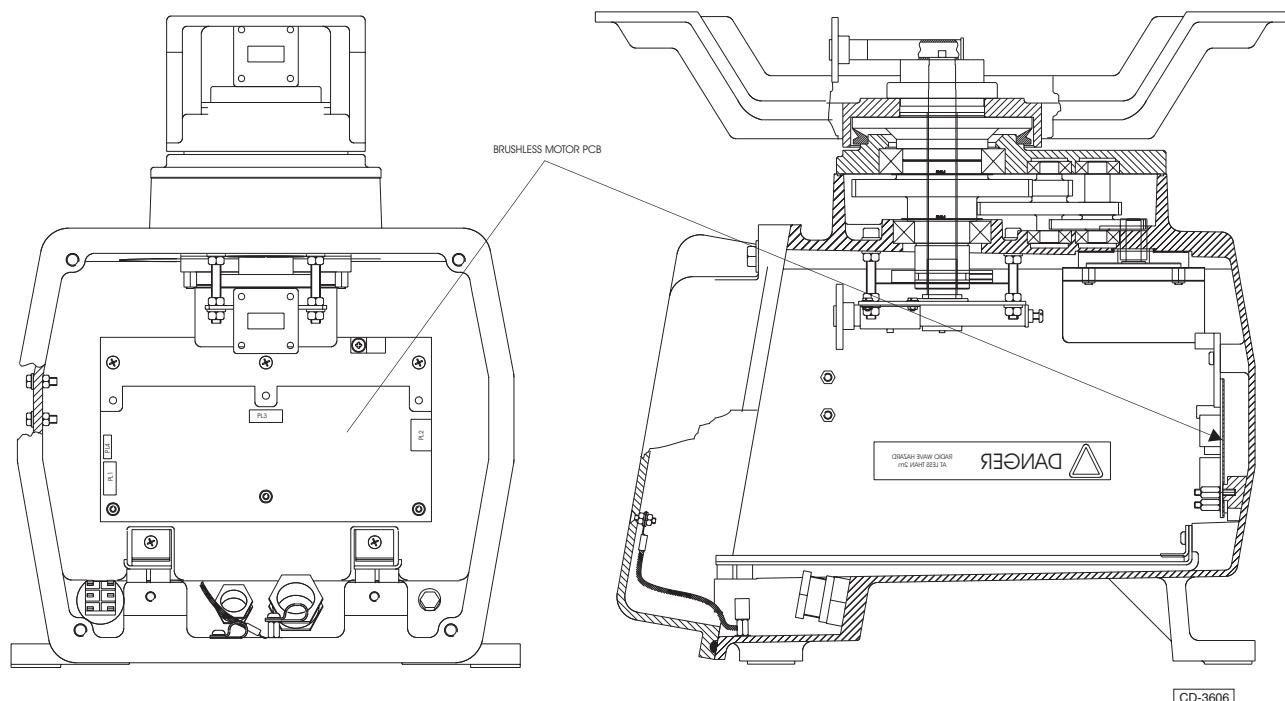

Figure 8b - Turning Mechanism: Showing Location of Brushless Motor PCB (CAE-A30-8 only)
- 21 The antenna motor brushes should be checked every 6 months or 3000 hours, whichever is sooner. (Refer to Figure 8b). At the same time, check the commutator for wear. To check, proceed as follows:
- (1) Remove the Transceiver Electronics Module, refer to paragraph 30.
- (2) Remove the Motor from the Transceiver case.
- (3) Remove brushes from the housing and check for wear, replace with new brushes if necessary.
- (4) Refit brushes, ensuring brush retaining springs are in place, and refit the motor into the transceiver case.